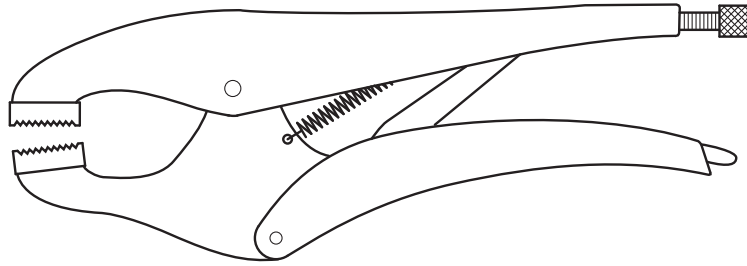

Fig. 6
- 4 Fig. 6 shows a wrench with a gripping action that can be locked in place. The locking function is achieved by means of a toggle clamp.
- (b) The type of wrench shown in Fig. 6 is often used to grip round shafts during maintenance operations of a gearbox.